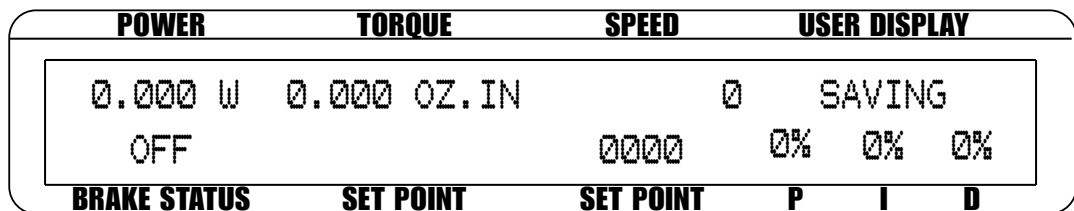

Fig.2-3 Saving Function Menu
1. Press [SHIFT] two times. "SAVING" will appear on the display, as shown in Figure 2-3 Saving Function Menu.